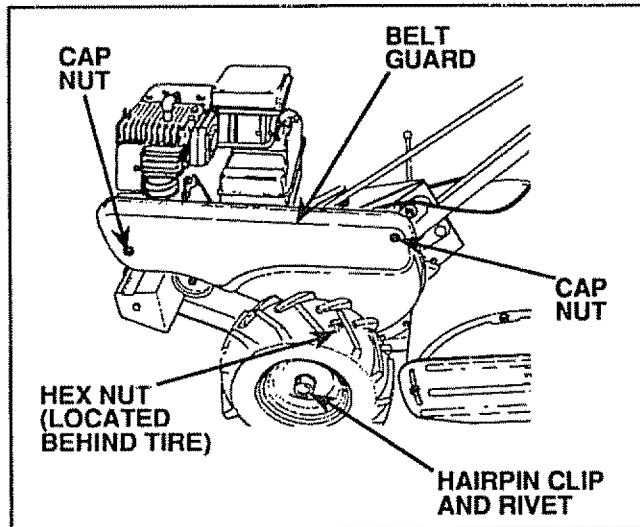

FIGURE 28
- Remove Belt Guard by removing two (2) Cap Nuts, one (1) Hex Nut and three (3) Washers so that the Belt Guard can slide straight out away from the Engine (Fig. 28).